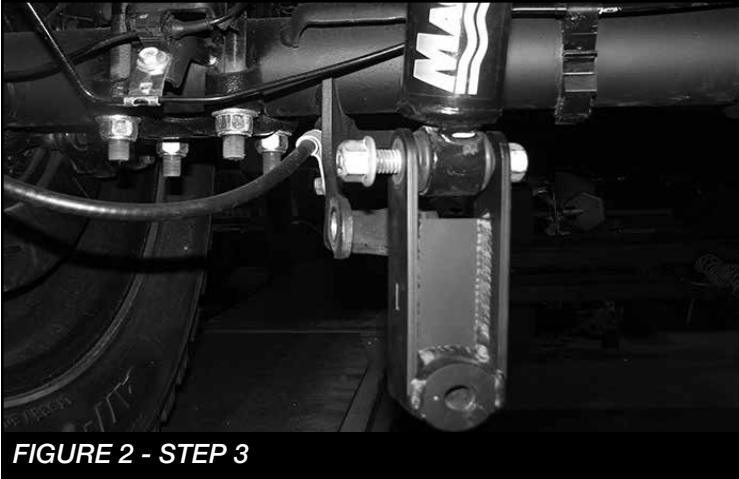

FIGURE 2 - STEP 3
3. Locate (FT20690BK) rear shock extension and factory bolt. Install the new bracket on the rear shock. Torque to 160 ft-lbs. **SEE FIGURE 2**